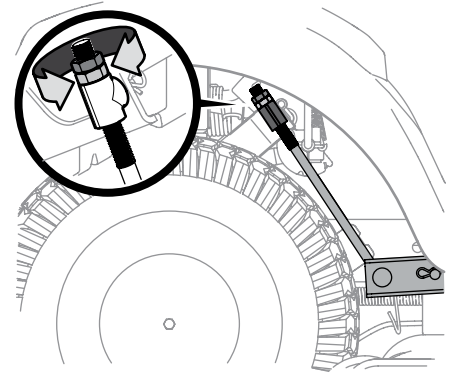

Figure 4-5
3. Under the rear fenders inside the wheels there is a lift adjustment rod for each side of the deck. See Figure 4-5.